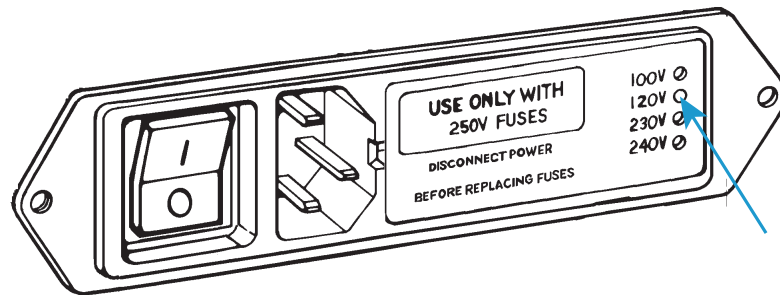

Figure 4. Power input connector with voltage setting
2. Inspect the power input connector and refer to Figure 4 on page 38. There are four holes in a vertical line at the right side of the connector, each corresponding to a different line voltage. The current voltage is indicated by a white plastic pin visible in one of the holes. The indicated voltage in Figure 4 is 120V.
3. Remove the fuse holder (1) from the power input connector, exposing the voltage selector card (2) as shown below.
4. Using long-nose pliers, remove the voltage selector card (2) as shown below. The voltage indicator pin is labeled (3).
5. Position the voltage selector card so the indicator pin (3) points upward, as shown below. Holding the pin in this position, rotate the card until the required voltage setting shows at the bottom of the card.
8. Re-install the fuse holder into the connector. Ensure that the indicator pin now indicates the correct input voltage. See Figure 4 on page 38 for reference.